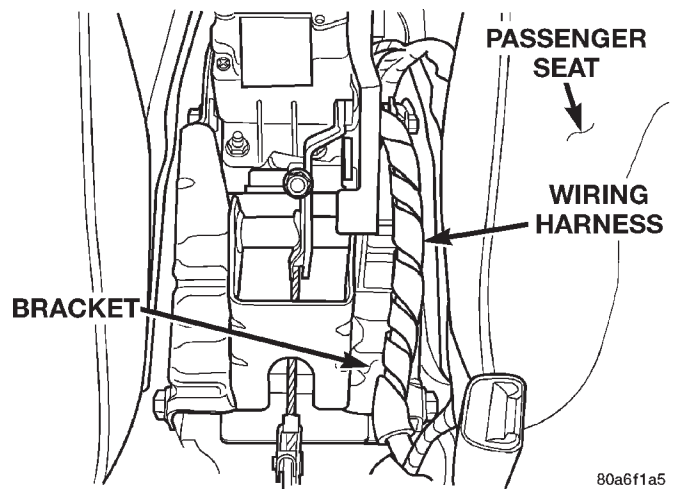

Fig. 137 Wiring Harness
(12) Unclip the wiring harness (Fig. 137) from the park brake mechanism bracket. Wiring harness is attached to bracket using 2 routing clips pushed through holes in the top of the bracket.
(2) Install the wiring harness (Fig. 137) on the park brake mechanism bracket.